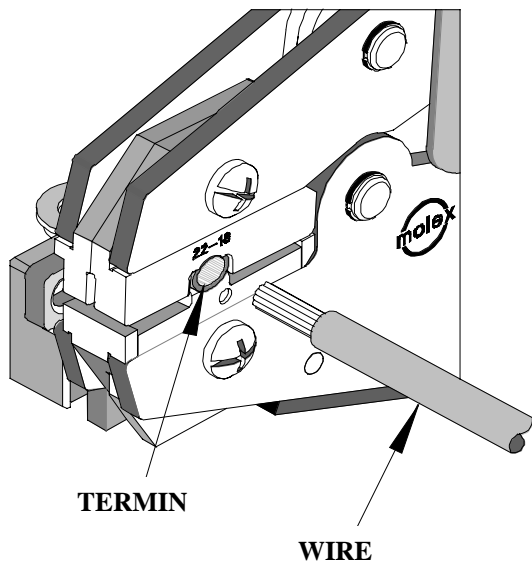

Figure 2
2. Partially close the tool to hold the terminal in place (See Figure 2).
3. Insert the properly stripped wire into the terminal barrel (See Figure 2 and 3). The wire's end should butt against the wire stop position of the locator. Cycle the tool.